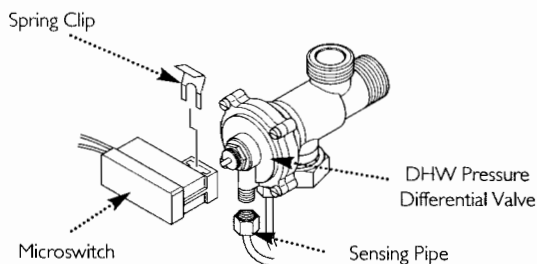

Fig. 68
12.22 Diverter Valve Assembly (Figs. 68 & 69)
DHW Pressure Differential Valve Diaphragm (Figs. 68 & 69)